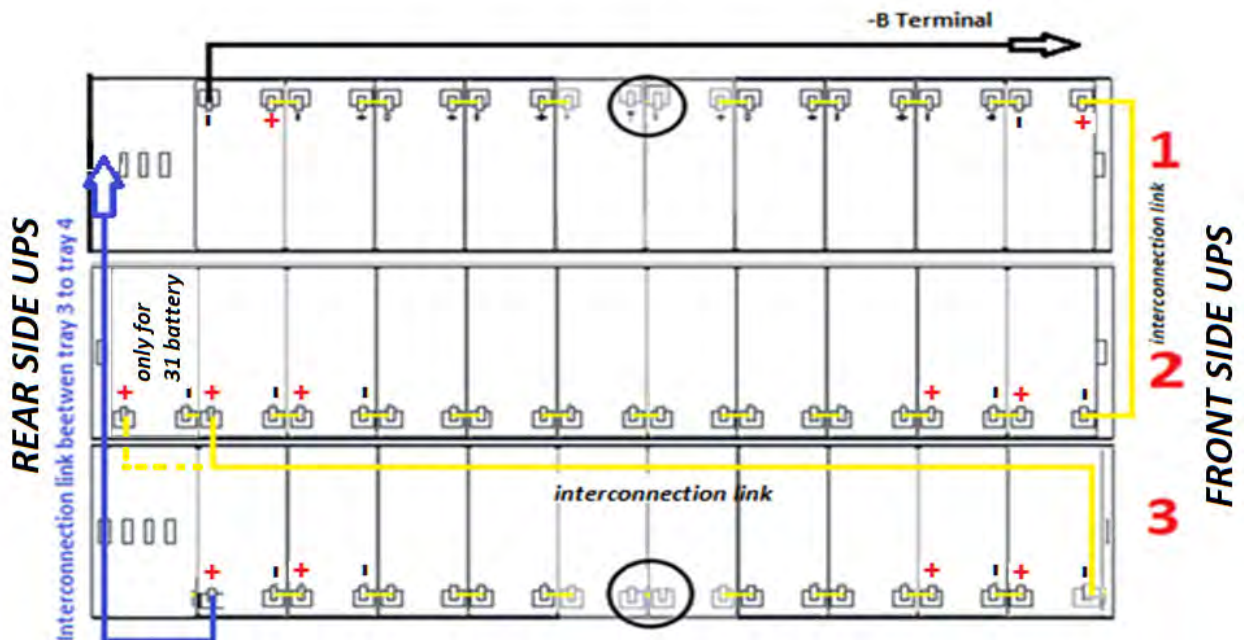

Figure 13 - View from above Level No.1 with battery connections
6) Wire level no. 1 as indicated in Figure 13. Leave the circled link jumpers disconnected.